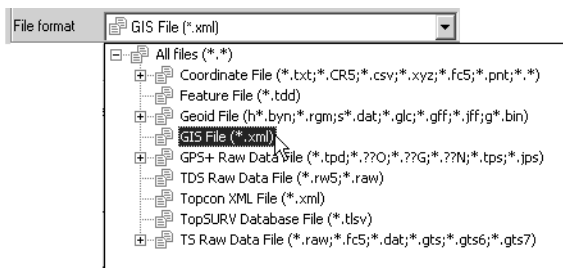

Figure 3-50. File Format List
- Select the File format (Figure 3-50).